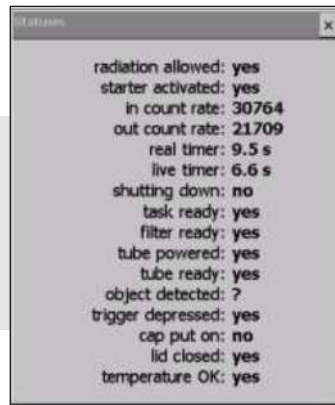

Fig.49. The status monitor
- Whether the operating temperatures are within limits, etc. (fig.49).